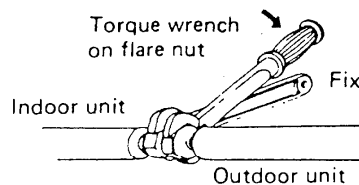

Fig. 6
2. Flare nut on large dia. pipe should be torqued to 300 ~ 340 lb in. Flare nut small dia. pipe should be torqued to 130 ~ 170 lb in. Fig. 6